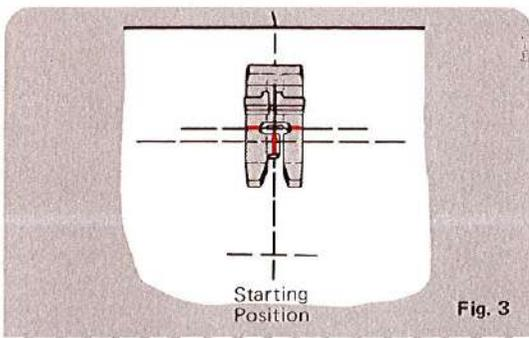

Fig. 3
2. Place garment under the buttonhole foot so that the buttonhole start line on the garment is aligned with red guideline on the foot. (See Fig. 3). Lower the foot.